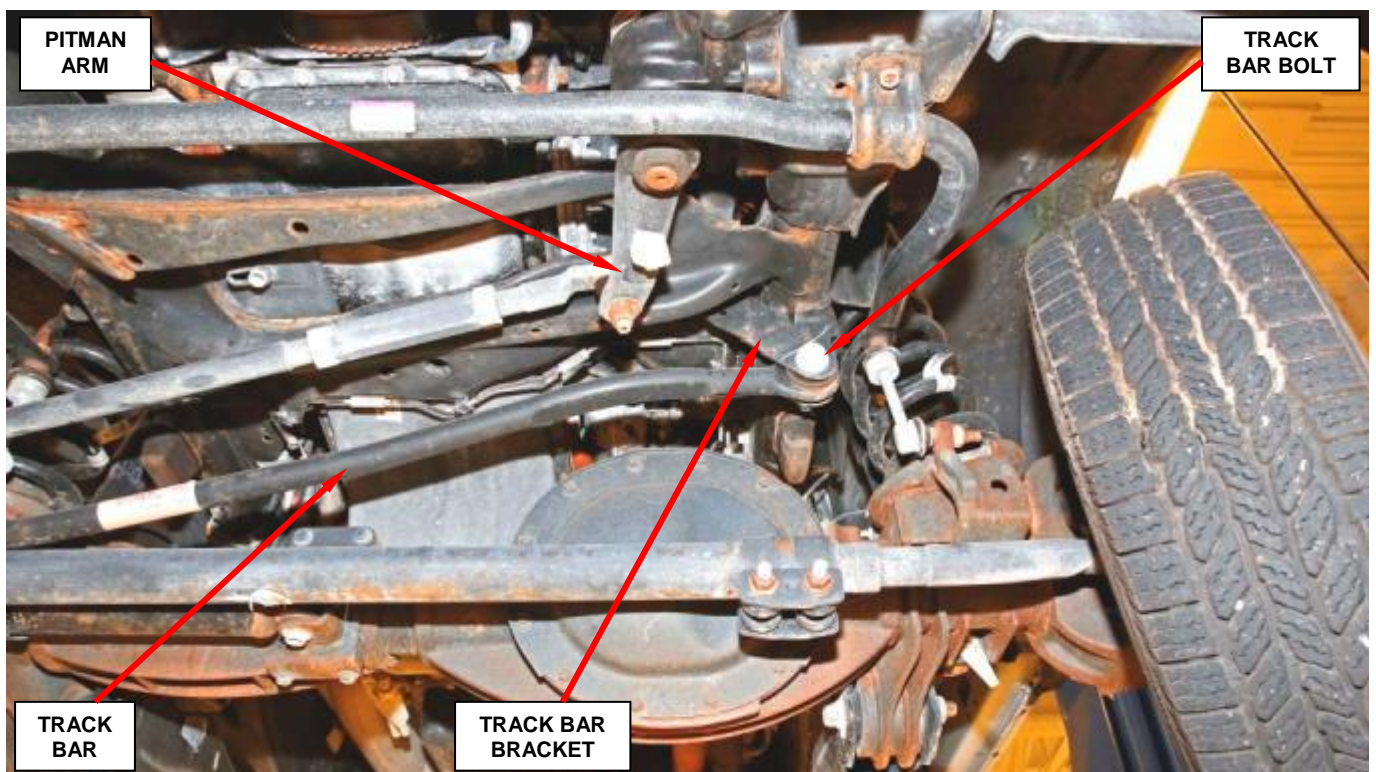

Figure 6 – Turn Front Wheels full Right and Remove Track Bar Bolt
2. Turn the front wheels to the full “right turn” position to gain additional clearance from the pitman arm (Figure 6).
3. Remove and save the track bar bolt and flag nut from the track bar at the frame bracket (Figure 6).